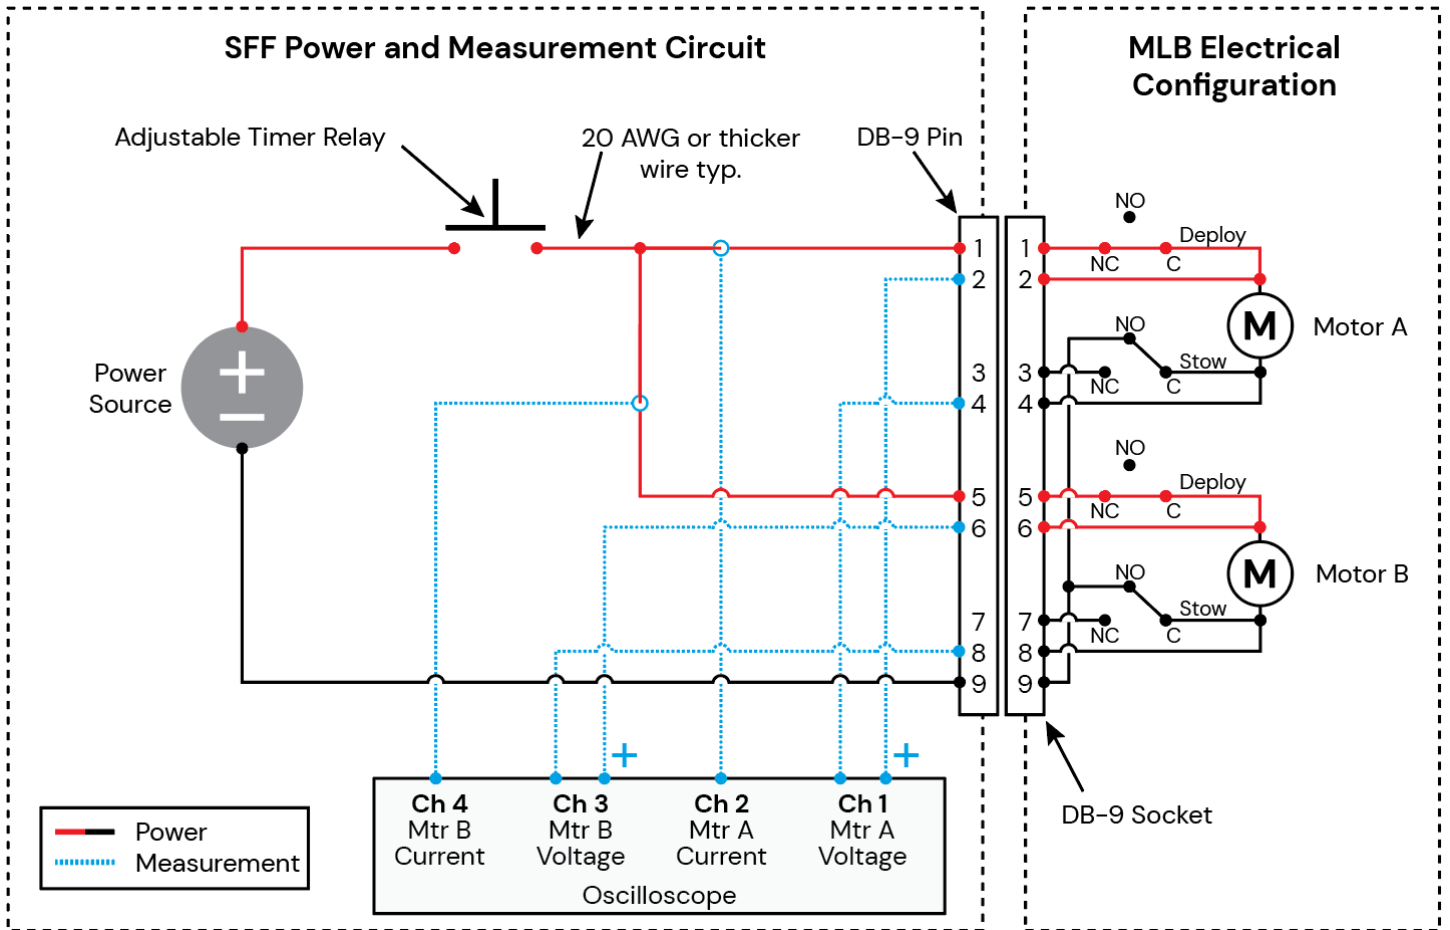

Figure 10-3: SFF circuit
10.3.1	Verify the DE-9 pin connector of the SFF Power and Measurement Circuit in Figure 10-3 is visibly clean. Any debris could detrimentally contaminate the Lightband's mating socket connector.
10.3.2	1) Ensure power source output is off. 2) Connect the Lightband to the SFF Power and Measurement Circuit per Figure 10-3.
10.3.9	Disconnect the SFF Power and Measurement Circuit from the Lightband's DE-9 socket connector in Figure 10-3.